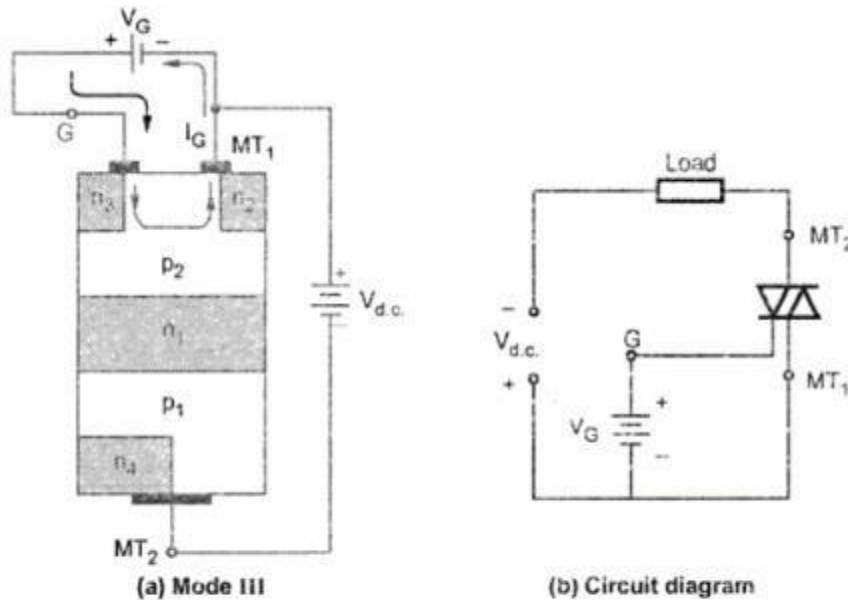

Fig. 4.38
**3. Mode III :** In this mode, triac is reverse biased i.e.  $MT_1$  is positive with respect to  $MT_2$  and the gate is made positive as shown in the Fig. 4.38. (See Fig. 4.38 on next page.)